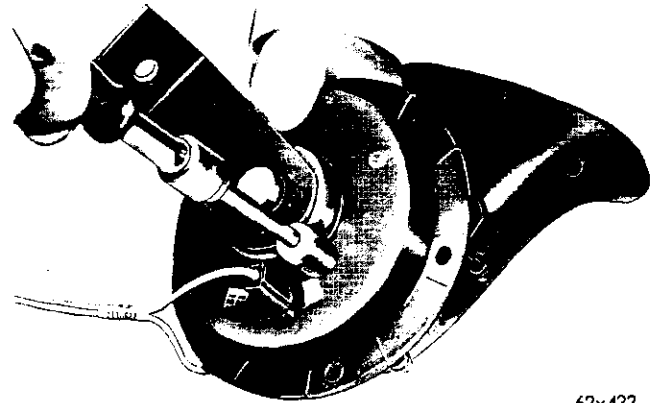

Fig. 98—Adjusting the Horn ("B")
(1) Disconnect the connections at each horn to determine which horn is not operating.
(2) Remove the horn and bracket assembly. Do not remove the horn from the bracket. (The bracket is retained to the horn by a self-threading screw).
(3) Turn the tone adjuster with a suitable spanner wrench (Fig. 98) to turning it counter-clockwise until there is no vibration (sound).
(4) Turn the adjusting nut clockwise, approximately $\frac{1}{4}$ turn at a time until the tone has a clear mellow sound. Do not turn adjuster while horn is blowing.